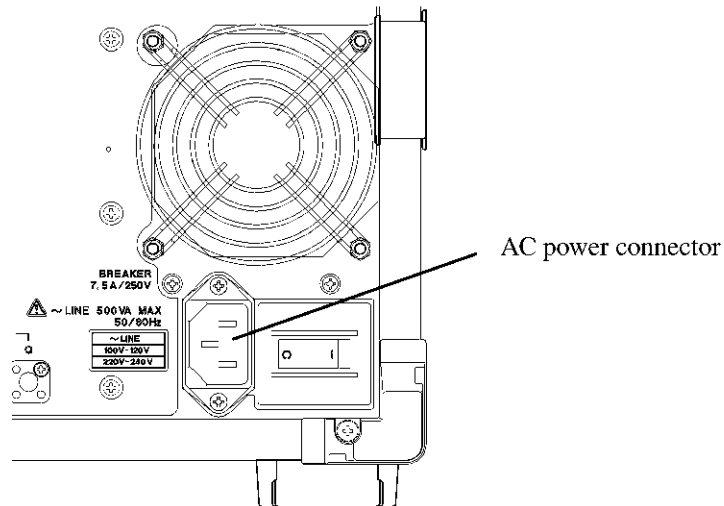

Figure 3-6 Connecting the Power Cable
2. Plug one end of the power cable included with this instrument into the AC power connector on this instrument rear panel and the other into a three-pole power outlet having a protecting grounding terminal (see Figure 3-6).